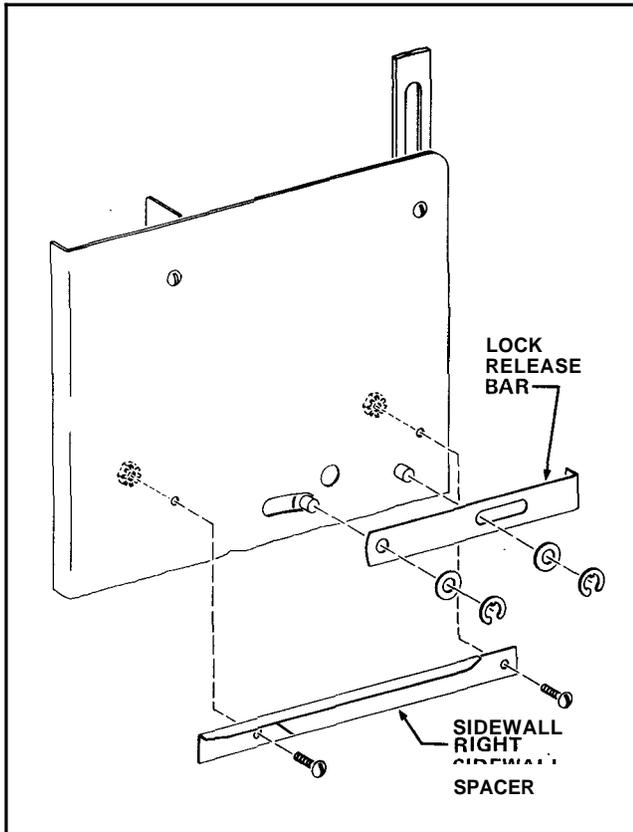

FIGURE 7-2
16. Remove two Retaining Rings, two Washers, and Lock Release Bar from the Right Sidewall. Retain the Lock Release Bar for use on the replacement Right Sidewall and ACMR Assembly. See Figure 7-2.
Sidewall. Retain the Right Sidewall Spacer for use on the replacement Right Sidewall and ACMR Assembly. See Figure 7-2.